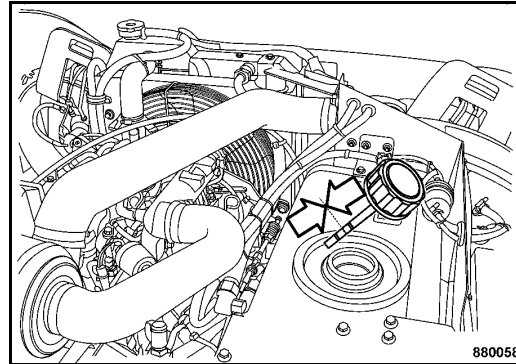

Fig. 122
- Check the oil level on the dipstick. The oil level must be between the "MIN" and "MAX" marks (Fig. 122).